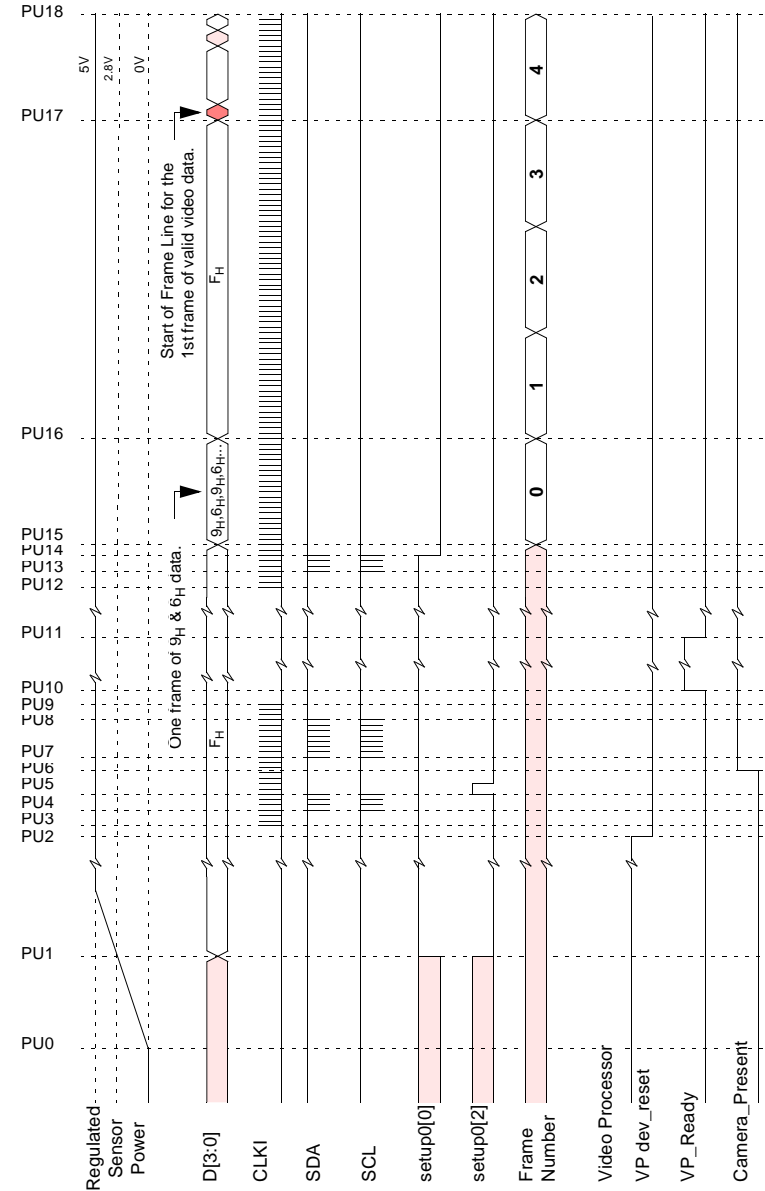

Figure 5.18 : System Power-Up or Hot-plugging Device Behaviour
5.6.1 Power-Up/Down (Figure 5.18)